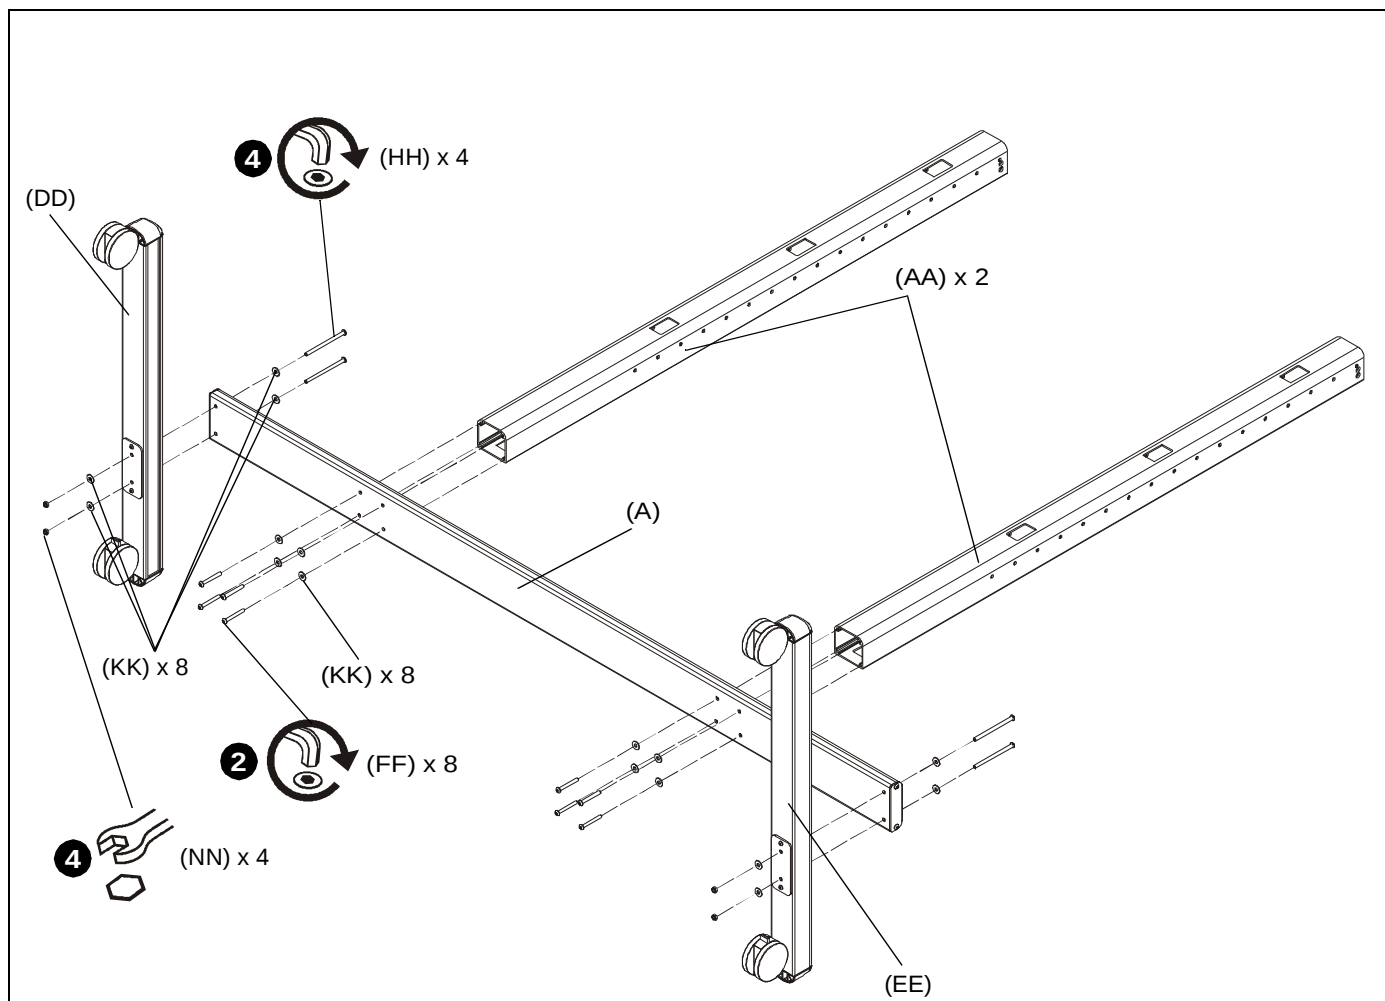

Figure 2
1. Lay two cart array columns (AA) down on a flat surface.
2. Use eight 5/16-18 x 2 1/2" button head cap screws (FF) and eight 5/16" washers (KK) to connect cross bar (A) to columns (AA). (See Figure 2)
4. Use four 5/16-18 x 5" button head cap screws (HH), eight 5/16" washers (KK) and four 5/16-18" lock nuts (NN) to secure right and left legs (DD and EE) to cross bar (A). (See Figure 2)
**NOTE:** To ensure right and left legs (DD and EE) are assembled on the appropriate side, make sure the smooth side of the legs are to the outside when assembling to cross bar (A).